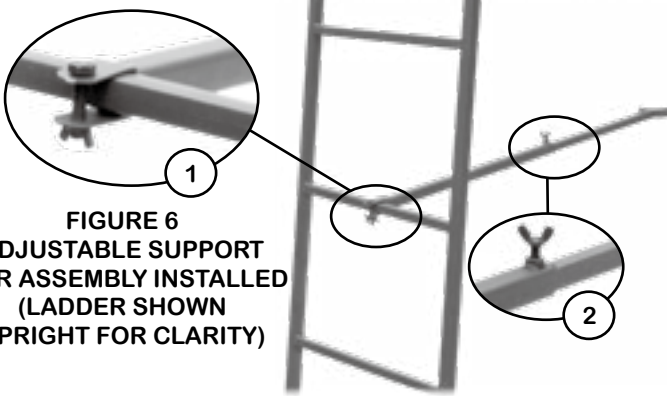

FIGURE 6
STEP 3: Lay the assembled ladder stand face down on the ground with the feet of the lower ladder section 3 or 4 feet (91cm and 122cm) away from the base of the tree. Locate the adjustable support bar assembly (W) (refer to Figure 1). Install the adjustable support bar assembly (W) to the sixth or seventh ladder rung from the ground level (as shown in Figure 6). Bolt the bar to the welded tabs using (1) 8mm x 1-5/8" bolt and (1) wingnut (as shown in Figure 6①). Tighten securely. Make certain the v-bar portion of the adjustable support bar assembly is extended away from the ladder sections. Note: The adjustable support bar assembly (W) adjusts for length by loosening the wingbolt (as shown in Figure 6②) and sliding the assembly in or out to accommodate length requirements. Once adjustments have been made, you must retighten the wingbolt prior to use.
STEP 4: Locate the looped ratchet strap (T) (refer to Figure 1). Install the looped end(s) of the ratchet strap assembly to each side of the v-bar as shown in Figure 6. For installation and threading instructions refer to Figure 8.
STEP 5: Locate two (2) 16' button stabilizing straps (U) (consists of: (2) 16' looped straps & (2) looped button ends) (refer to Figure 1). Install the 2-16' looped strap ends to each side of the v-bar as shown in Figure 6. For installation & threading instructions, refer to Figure 10. Allow the looped ratchet strap (T) and the (2) 16' looped strap end to hang freely downward.
STEP 6: With three (3) or more adults, carefully raise the assembled ladder stand up until the ladder stand rests into the center of the v-bar (O), and foot platform (M) are level. Note: DO NOT stand in the direct path or underneath any treestand at any time. If need be, drive a stake into the ground at the first ladder rung to prevent the ladder stand from sliding toward the tree while raising and lowering of the ladder stand
STEP 10: Locate the (2) 16' button stabilizing straps (U) hanging down from the v-bar. Pull down on the straps from behind the tree and criss-cross the straps behind the tree to form a "X" with the straps. Keeping tension on the straps, walk around to the front of the tree and secure each 16' strap to (1) looped button strap secured to the 5th ladder rung from ground level. (refer to Figure 6). These straps will hold the top section to the tree until the platform section is secured to the tree with the looped ratchet strap (T). NEVER REMOVE the straps from the tree nor attempt to climb the ladder unless the 16' button stabilizing straps and adjustable support bar assembly (W) is firmly attached to the tree